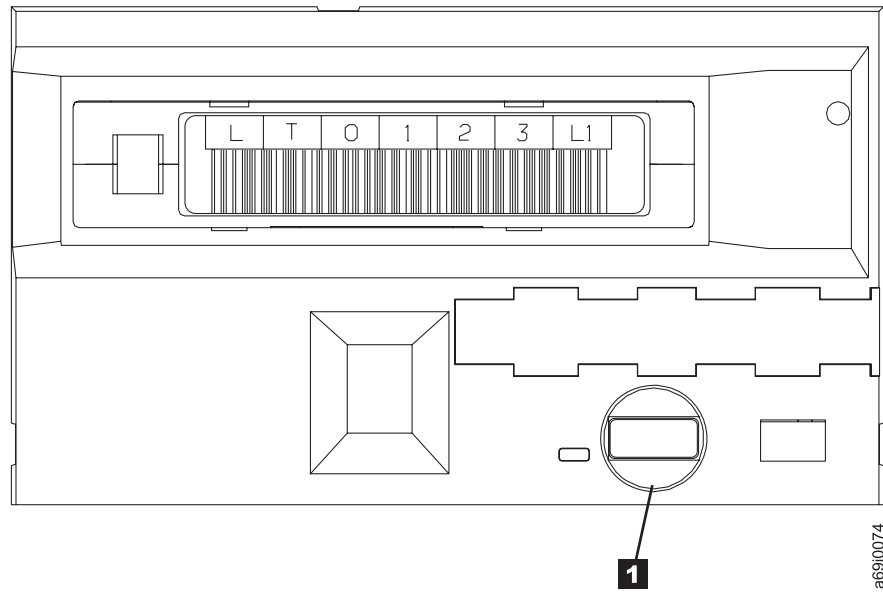

Figure 28. Removing a cartridge from an Ultrium Tape Drive
- a. Press the unload button (1 in Figure 28 on page 75).